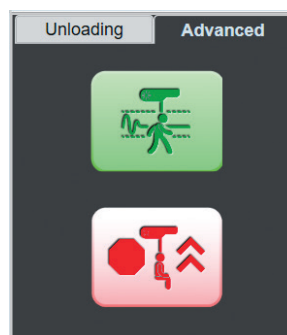

Figure 6-10:
4. When Ascent Assist is enabled, the button will turn red. See Figure 6-10.